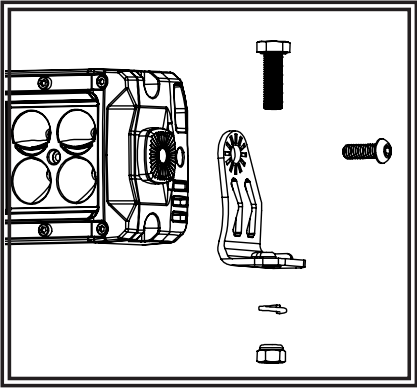

Figure 3
- 1. Loosely secure the end brackets to the lightbar with the head bolts as shown in FIGURE 3.